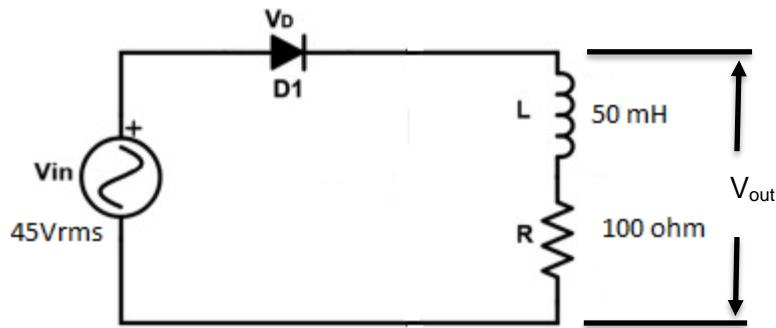

Figure 2.6 - Single-phase half wave uncontrolled rectifier circuit with RL load
1. Set up the circuit as shown in Figure 2.6.